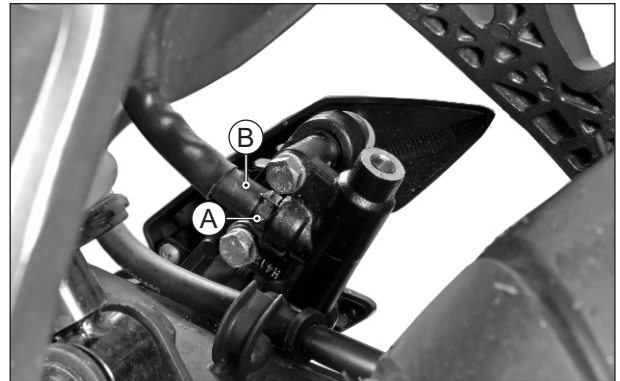

Fig. 6.124
- Remove the clip hose (A) and take out hose oil (B). (Fig. 6.124)